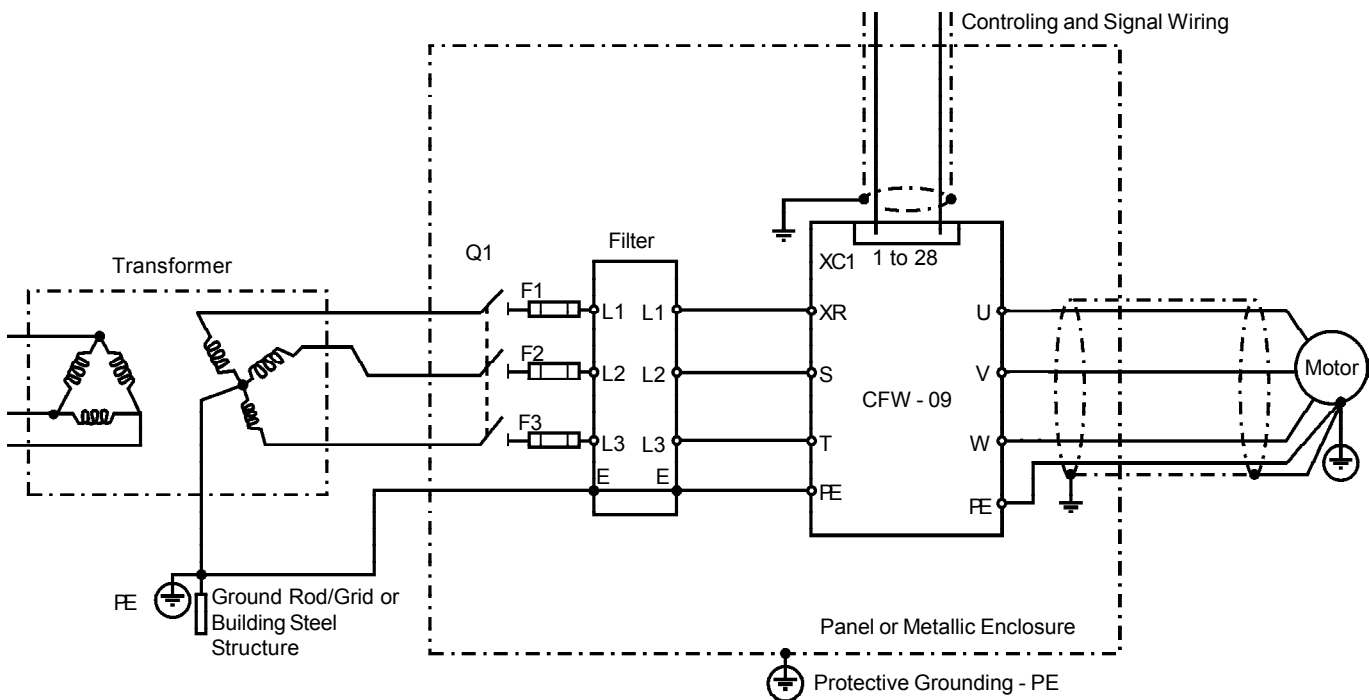

Figure 3.18 - Epcos EMC filters connection in CFW-09 frequency inverters
Two filters are suggested: Epcos and Schaffner, detailed on the following items 3.3.2 and 3.3.3. Figures 3.18 and 3.19 present a connection diagram for EMC filters, Epcos and Schaffner respectively.